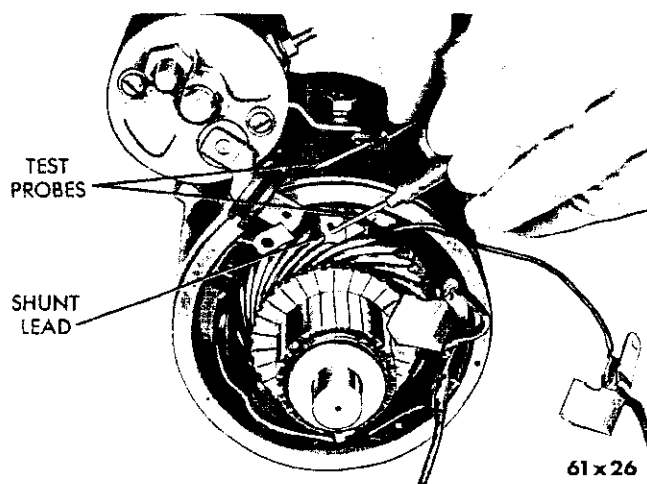

Fig. 16—Testing the Shunt Coil for Ground
(6) Touch one probe to the shunt field coil lead and the other probe to the field frame (Fig. 16).